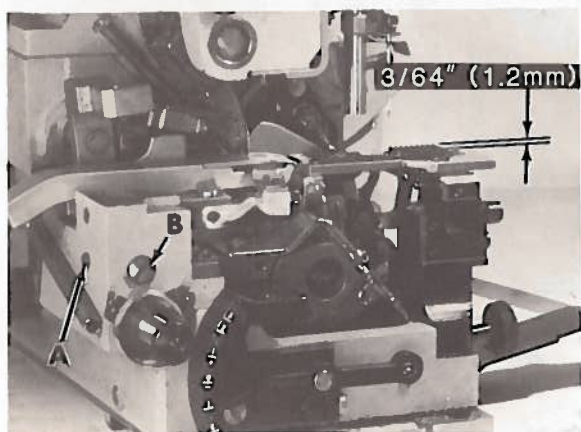

Fig. 20
Rotate handwheel in operating direction and stop when teeth of rising feeds first appear above top surface of throat plate. The feeds should be level with the throat plate at this time. With feeds at highest point of travel, teeth should extend approximately 3/64 inch (1.2mm) above throat plate as shown in Fig. 20.
To level feeds, loosen lock screw (A, Fig. 20) and rotate tilt adjusting pin (B) to position rear of feeds up or down. Tighten lock screw (A) securely.